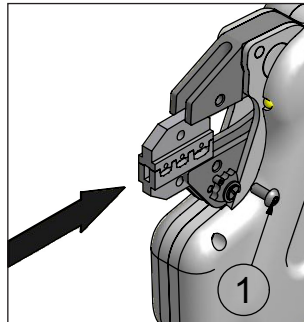

Figure 5
8.1.1 Fitting die sets without additional positioning guides, e.g. for insulated/non-insulated cable connectors, through and coax connectors, wire-end sleeves, RJ plugs, etc. (Figure 5, 6)
2. Push the closed crimping die set – as shown in Figure 5 – into the socket on the die until the lower piece of the die set can be loosely screwed into place.
2. Push the closed crimping die set – as shown in Figure 5 – into the socket on the die until the lower piece of the die set can be loosely screwed into place using the M4x16 screw.
2. Push the closed crimping die set – as shown in Figure 5 – into the socket on the die until the lower piece of the die can be loosely screwed into place using the M4x16 screw.